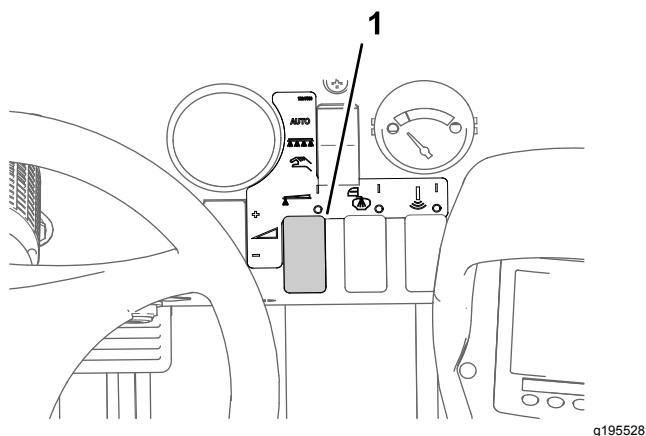

Figure 32
8. Use the application-rate switch to achieve the desired spray pressure as indicated in the nozzle-selection guide provided with the sprayer (Figure 32).